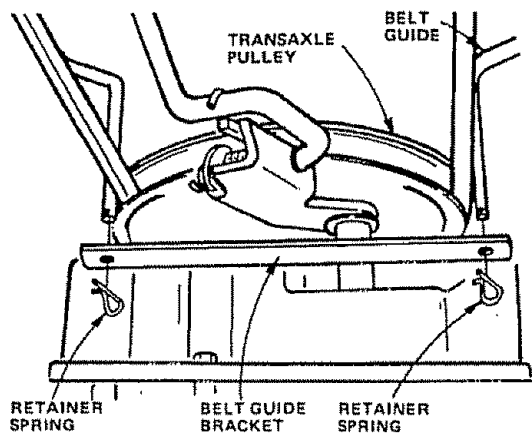

FIGURE 31
- b. Remove two retainer springs from belt guide bracket below transaxle pulley. Remove bracket (Fig. 31).
- c. Swing belt guides away from belt, toward rear of tractor (Fig. 31).